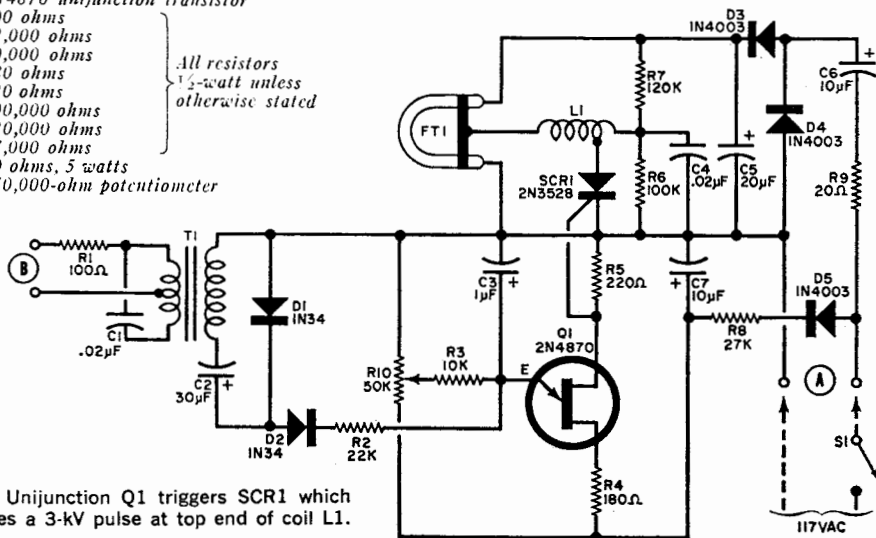

Fig. 1. Unijunction Q1 triggers SCR1 which produces a 3-kV pulse at top end of coil L1.
**Construction.** The circuit (Fig. 1) can be built on a single printed board, such as the one shown actual-size in Fig. 2. The components are mounted on the board in accordance with the layout of Fig. 3. Carefully solder all components to the board using resin-core solder.